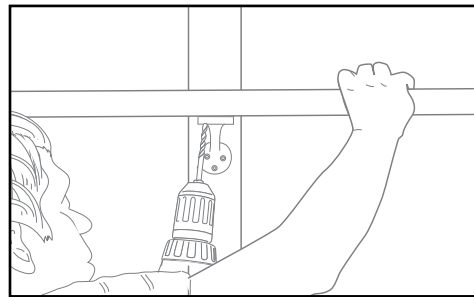

Fig. 5
- After Hand Rail has been mounted, pre-drill the Hand Rail lineal with a 13/64" drill bit and attach to the bracket to the lineal using the provided fasteners - Fig. 5.